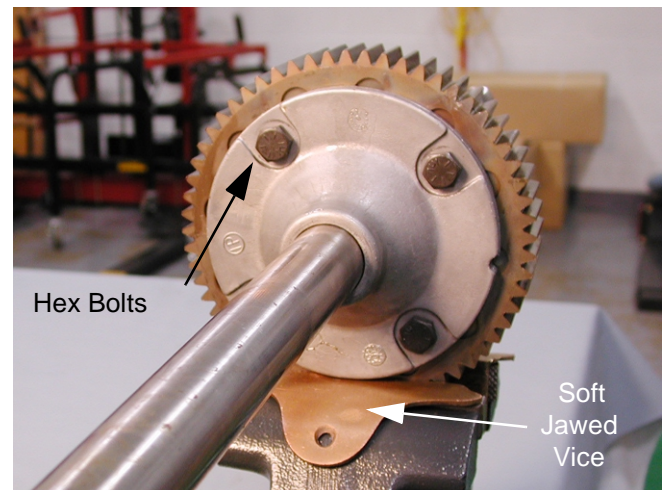

Figure 25
34. Place the differential assembly in a vice (horizontally) and break all hex bolts free using a 9/16" socket. See Figure 25.